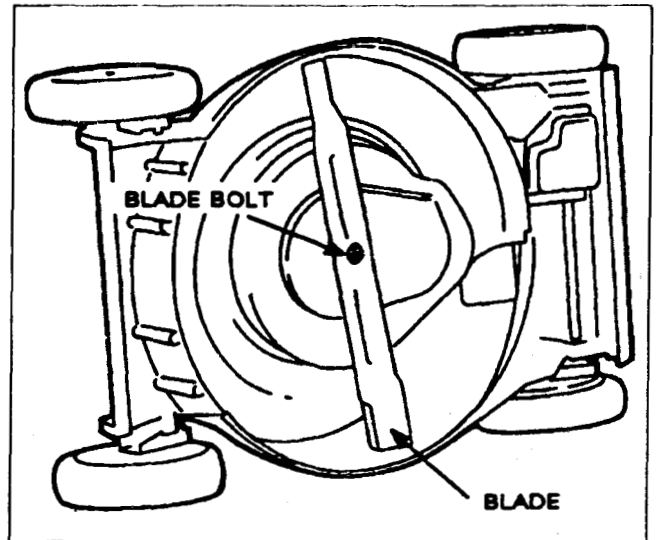

Figure 10
3. Tip the mower on its right side. See Figure 10.
5. **REMOVING THE BLADE** - Grasp the end of the blade using a rag or thickly padded glove. Remove the blade bolt, washer, blade, and blade retainer. See Figures 10 and 12.